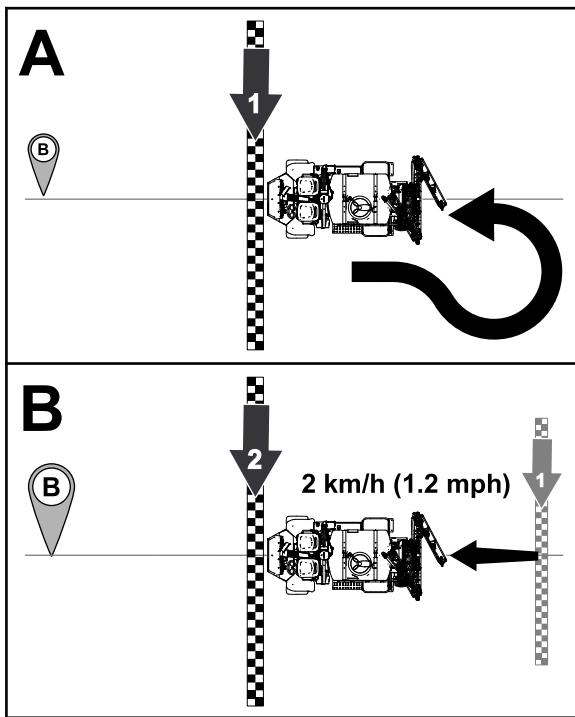

Figure 170
8. Before reaching point B, set the ground speed for machine to 2 km/h (1.2 mph), and engage the throttle lock of the machine (Figure 170).